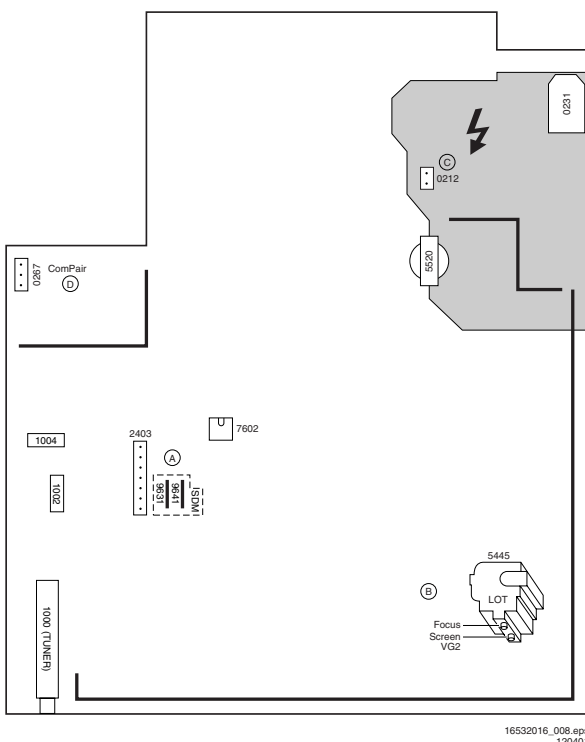

Figure 8-1 Family Board (top view)
20. Select the cathode with the highest V_{DC} value for the alignment. Adjust the V_{cutoff} of this gun with the SCREEN potentiometer (see Fig. 8-1) on the LOT to the correct value (see table 'Vg2 cut-off point').
4. Adjust the FOCUS potentiometer (see Fig. 8-1) until the vertical lines near the left and right sides of the screen, and near the horizontal center of the screen, are at minimum width without visible haze.